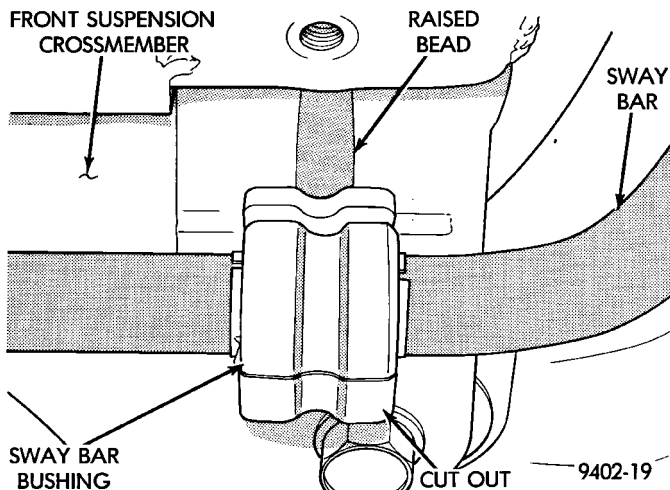

Fig. 43 Stabilizer Bar To Crossmember Bushing Position
(3) Position stabilizer bar into front crossmember, so cutouts in stabilizer bar bushings are aligned with raised bead in crossmember. Install stabilizer bar bushing retainers onto crossmember aligning raised bead on retainer with cutouts in bushings (Fig. 43).